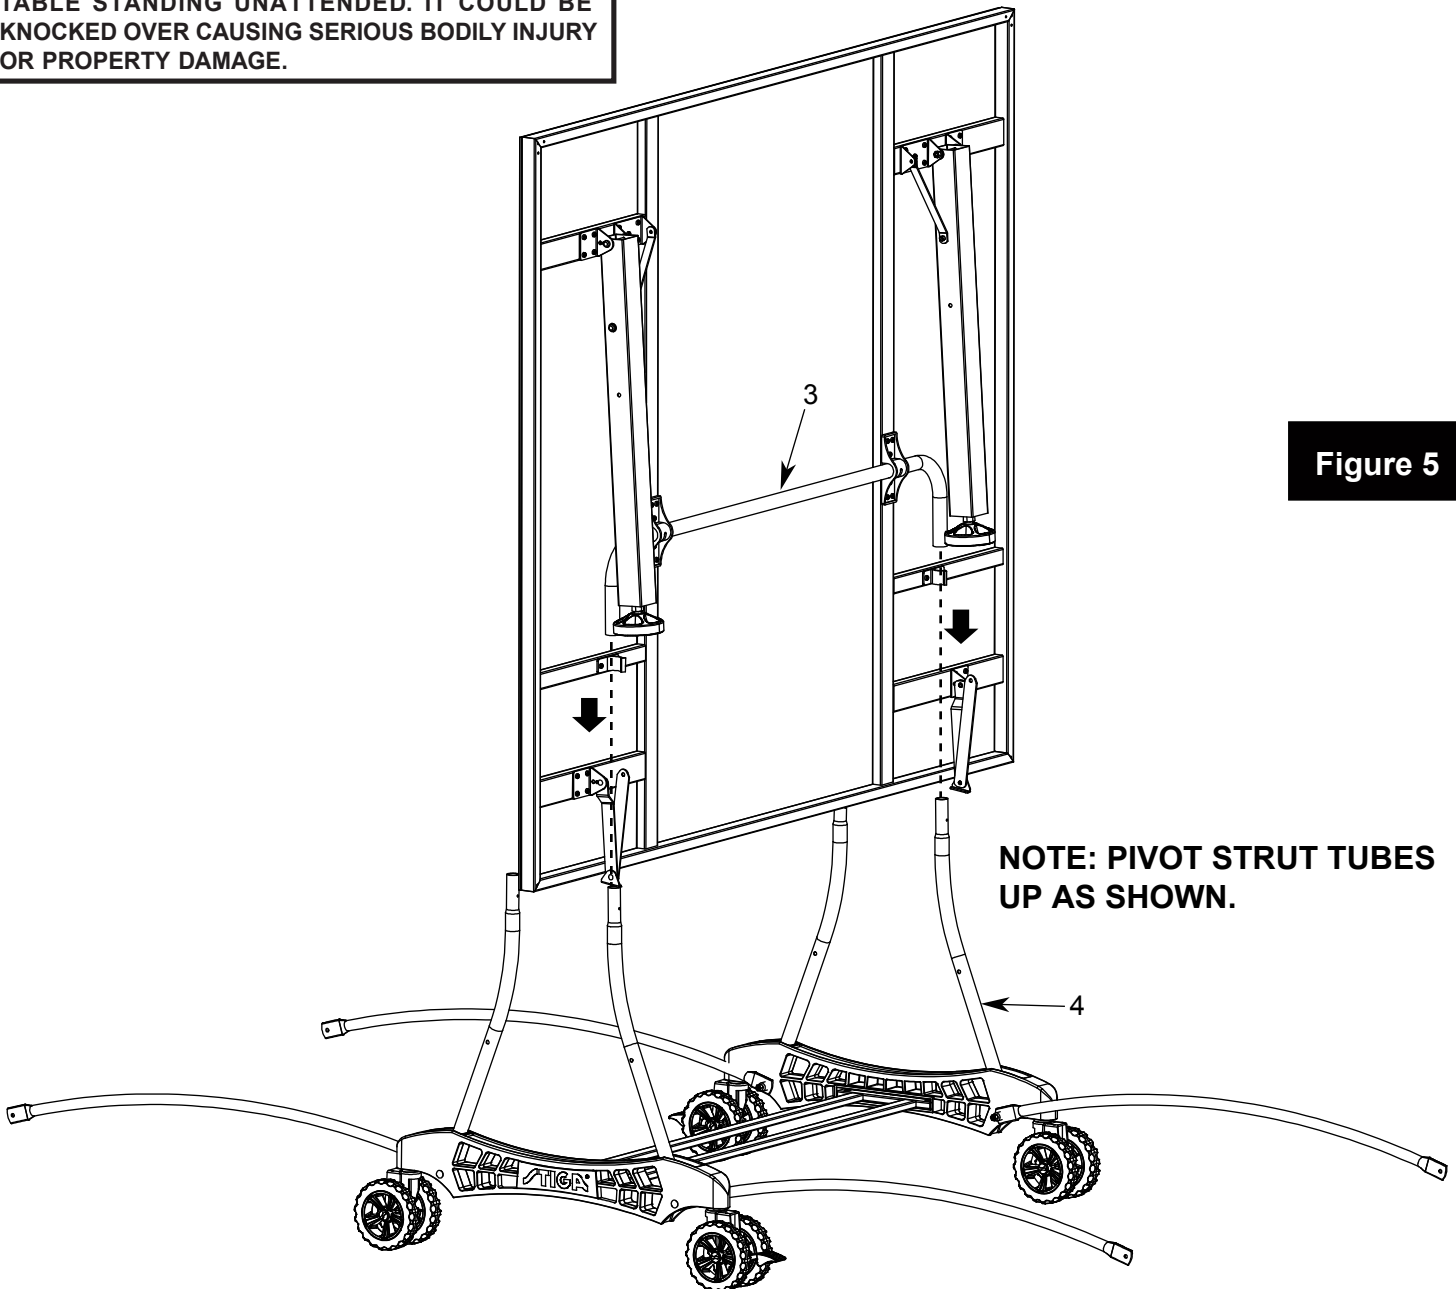

Figure 5
5. Attach table top to base assembly. Pivot Strut Tubes (#4) up and then with at least one adult on each side of table top, lift top and align ends of U-support Tube (#3) with tops of strut tubes on caster beams as shown in **FIGURE 5**. Slide tubes together. **Repeat for other Table Top.**